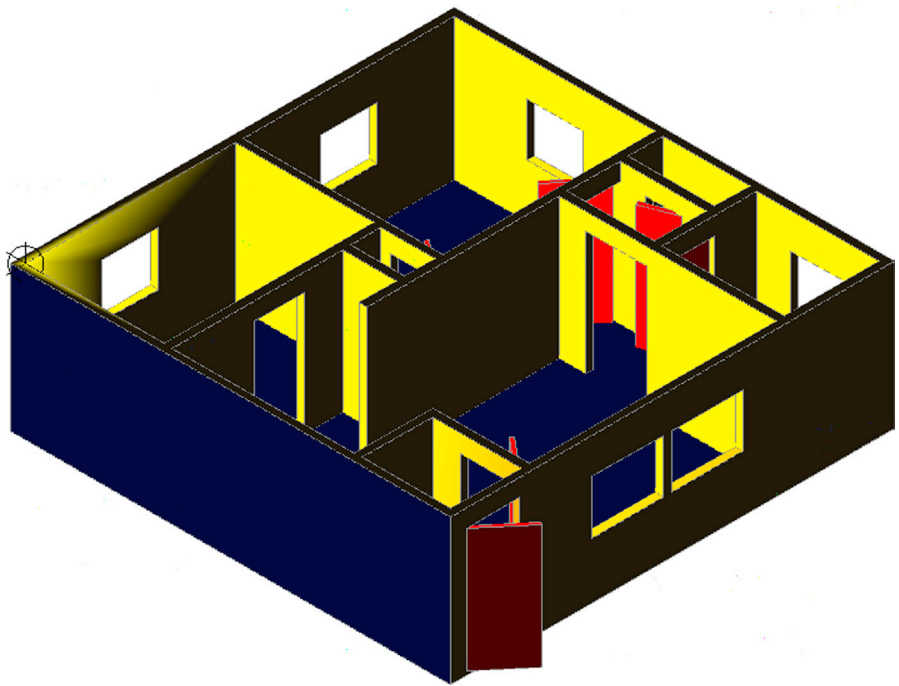
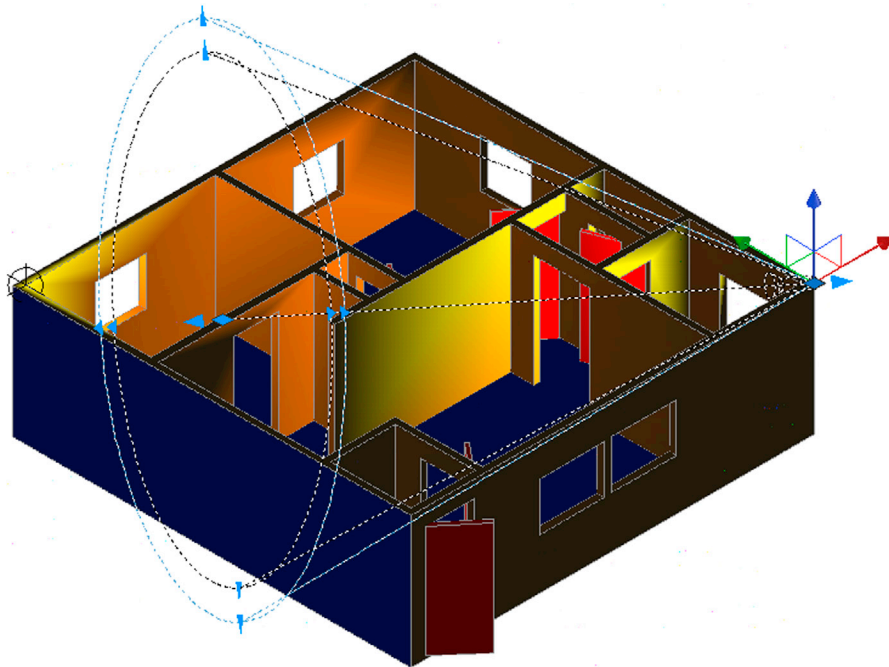

FIGURE 30.3 Point Light (LIGHTINGUNITS 0).
FIGURE 30.5 Point Light (LIGHTINGUNITS 1).
The result is a spotlight located at an upper left corner of the 3D model (notice the circular marker), shining yellow light on the entire structure (Fig. 30.3). Note that the light goes through the walls, illuminating everything equally, as if the walls were not even there. We change this later with the LIGHTINGUNITS system variable. You can locate as many point lights as you want; we do only one example of this.
- **Photometry:** This option depends on the `LIGHTINGUNITS` system variable that was mentioned earlier, to be set to 1 or 2 (International or American with Photometry enabled), not 0, which is Generic lighting, as seen in Fig. 30.3. Once that is set, photometry refers to the *perceived power emitted by a light source*. The result of setting that system variable is that a more realistic light gradient is shown, where the intensity fades as you move farther from the lamp source, as seen in Fig. 30.5. There are three additional options under the Photometry menu choice: